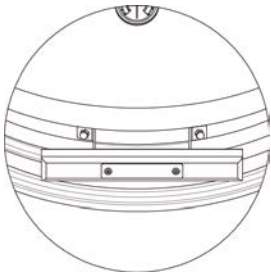

Figure 7
**STEP 9A** Install Front handle with top grill done in the closed position – be careful not to over tighten the nuts... (See Figure 7)